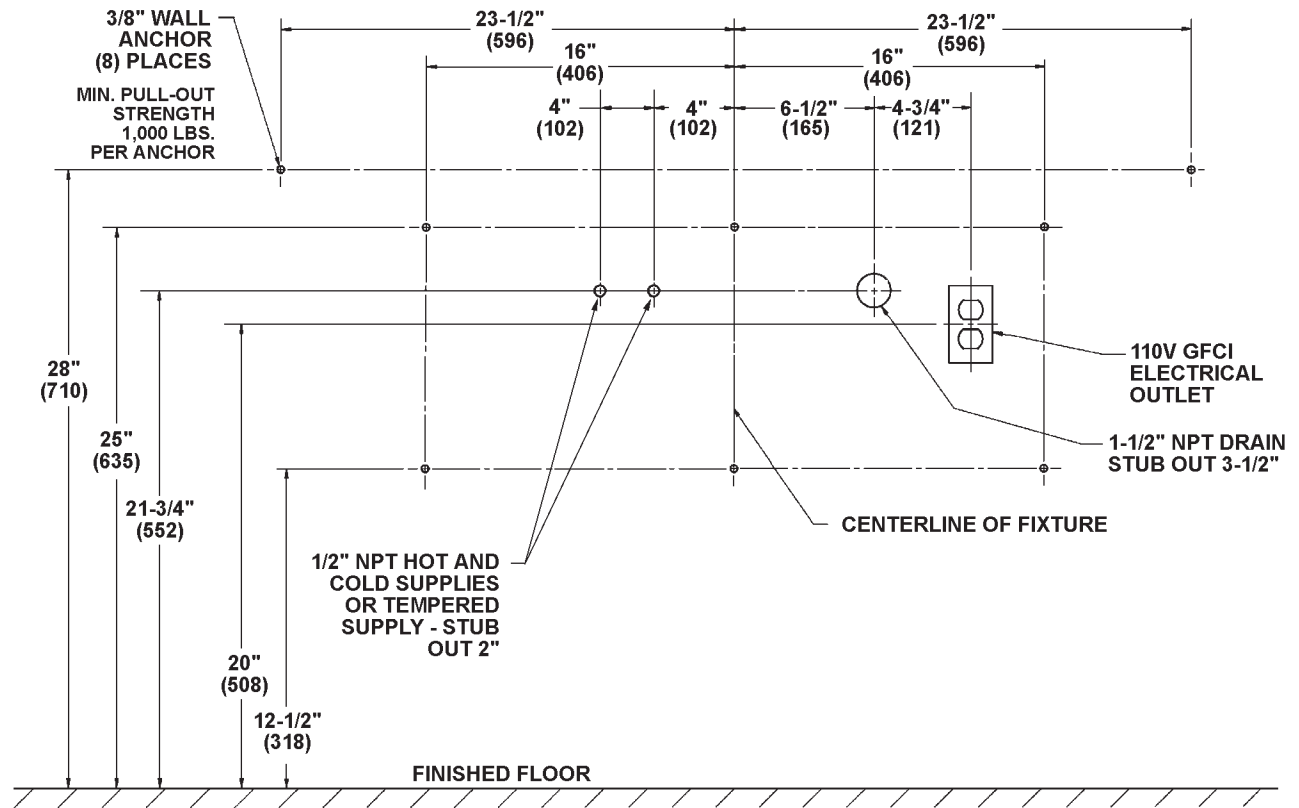

Figure 1b
NOTE: See Figure 1a below (for Standard Height) and Figure 1b on page 5 (for Juvenile Height) when roughing in the Express®.
4. Install eight 3/8" wall anchors with a minimum pull-out rating of 1,000 lbs. (supplied by installer) at the locations shown in Figure 1a below or Figure 1b on page 5.